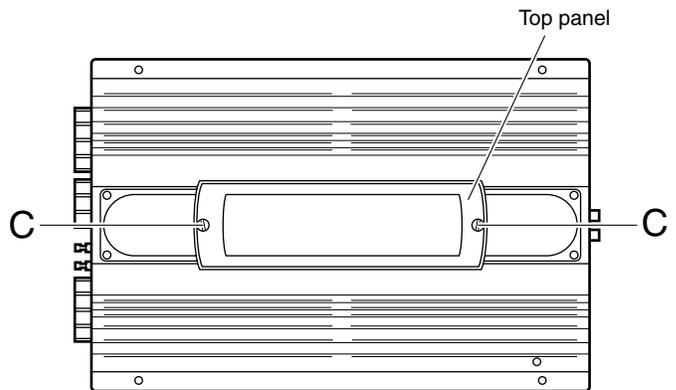

Fig. 2
■ Removing the MAIN PCB (see Fig. 2 to 8)